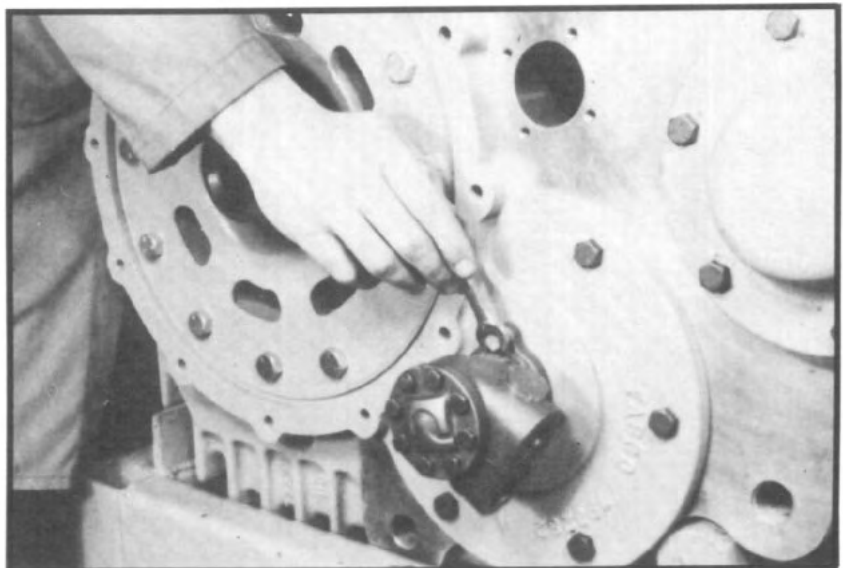

Fig. 68
- 3.15 Remove three capscrews holding oil pump to rear face plate. (See fig. 68.)